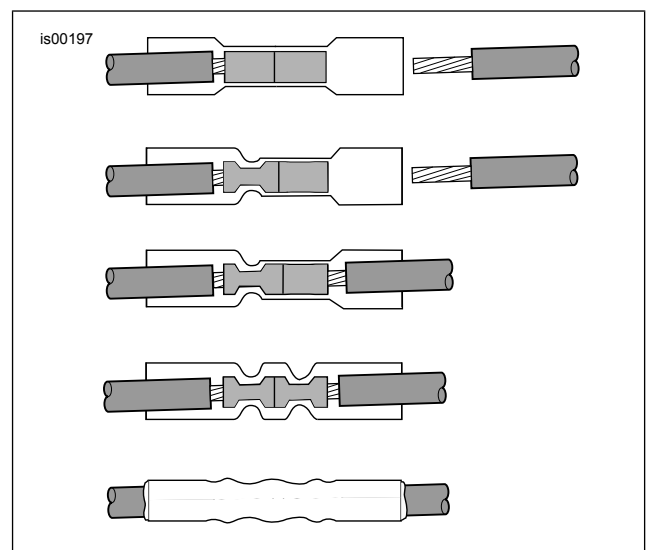

Figure 4. Splice 1 into 1 Sequence
3. See Figure 4. Identify the splice configuration required for the power and signal leads.